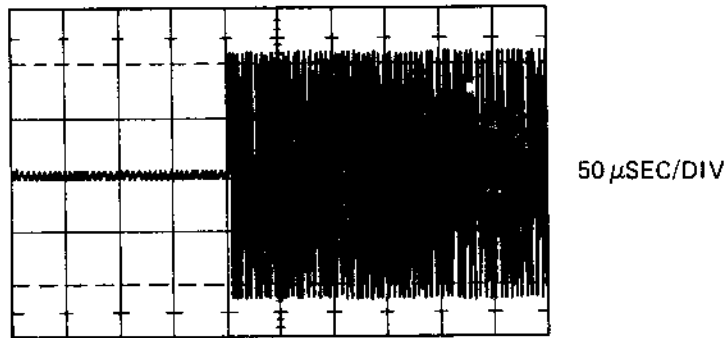

Figure 2-2. Index Pulse and Data Burst
- f. The start of the data burst should lag the negative going edge of the index pulse by 200 μ sec \pm 50 μ sec. (Figure 2-2.)
- g. Observe time interval between sync and data burst. (Figure 2-2.)